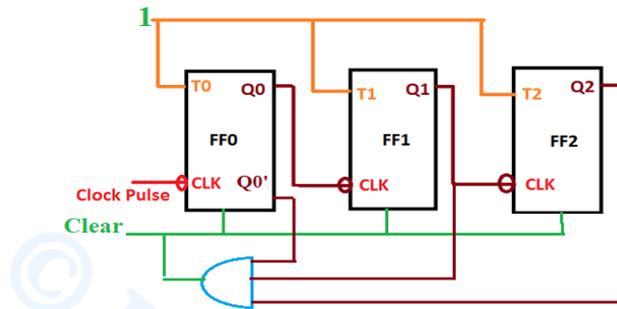

Fig. 4.20: Asynchronous MOD-7 counter
**Asynchronous Design-** This can be designed simply by using asynchronous up-counter. As soon as the counter reaches to the highest state ( 110 - in this case), the combination (110) can be applied to RESET or clear input which will bring it back to 000 state, as shown in Fig. 4.20.